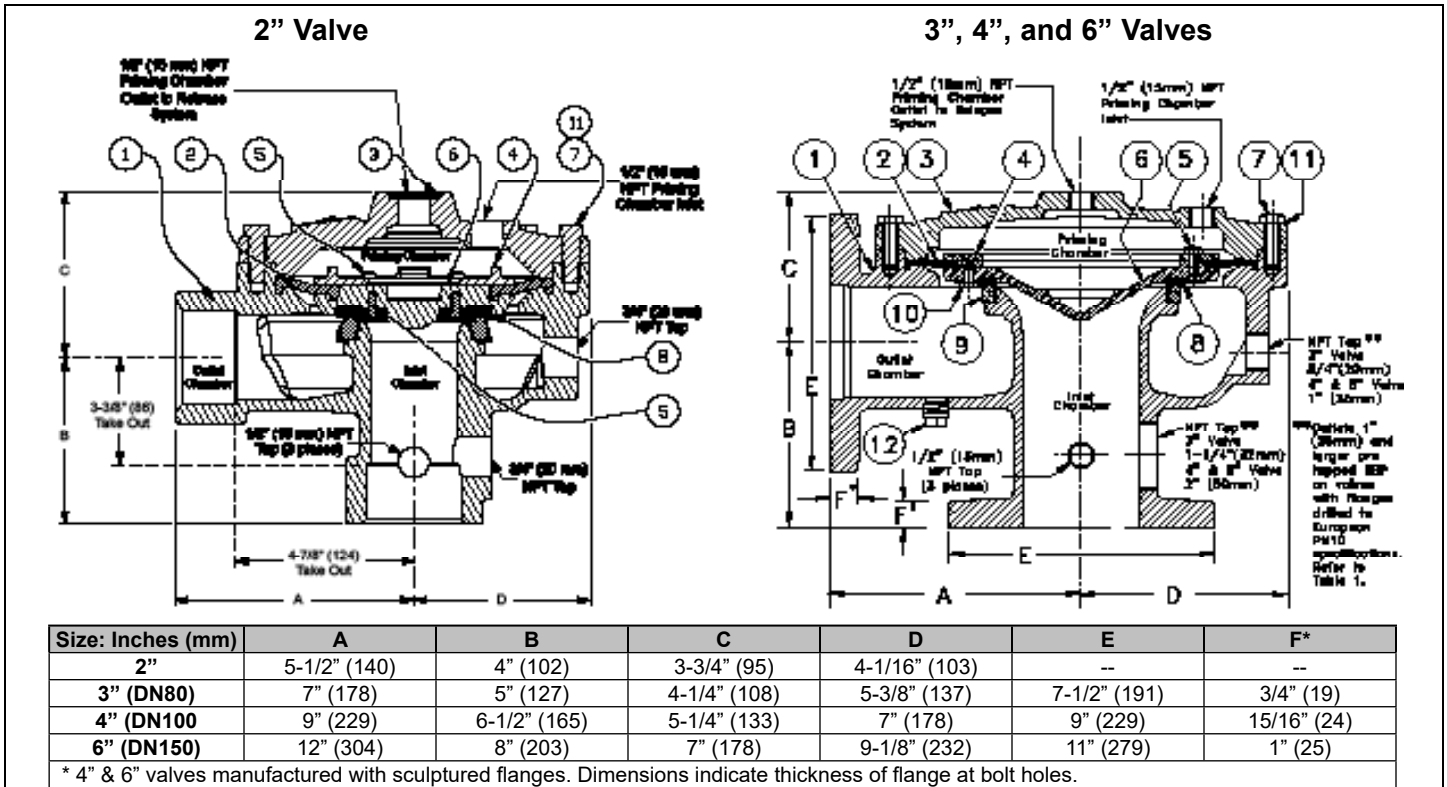

Figure 2 - Replacement Parts 3''-6'' Valves
3. Remove the cover (3):
- a. Remove each of the cap screws (7) and break the seal of the cover.
- b. Lift the cover (3) off the valve body (1) and gently set it aside.
F. Installing Replacement Parts and Valve Reassembly (Refer to Figure 2.)
- a. Remove the old clapper assembly (2, 4, 5, 6, 7, 8, and 10) by placing a flat head screwdriver between the body (1) and the diaphragm rubber and then lifting the clapper assembly from valve body (1).
- b. Inspect the seat (9).